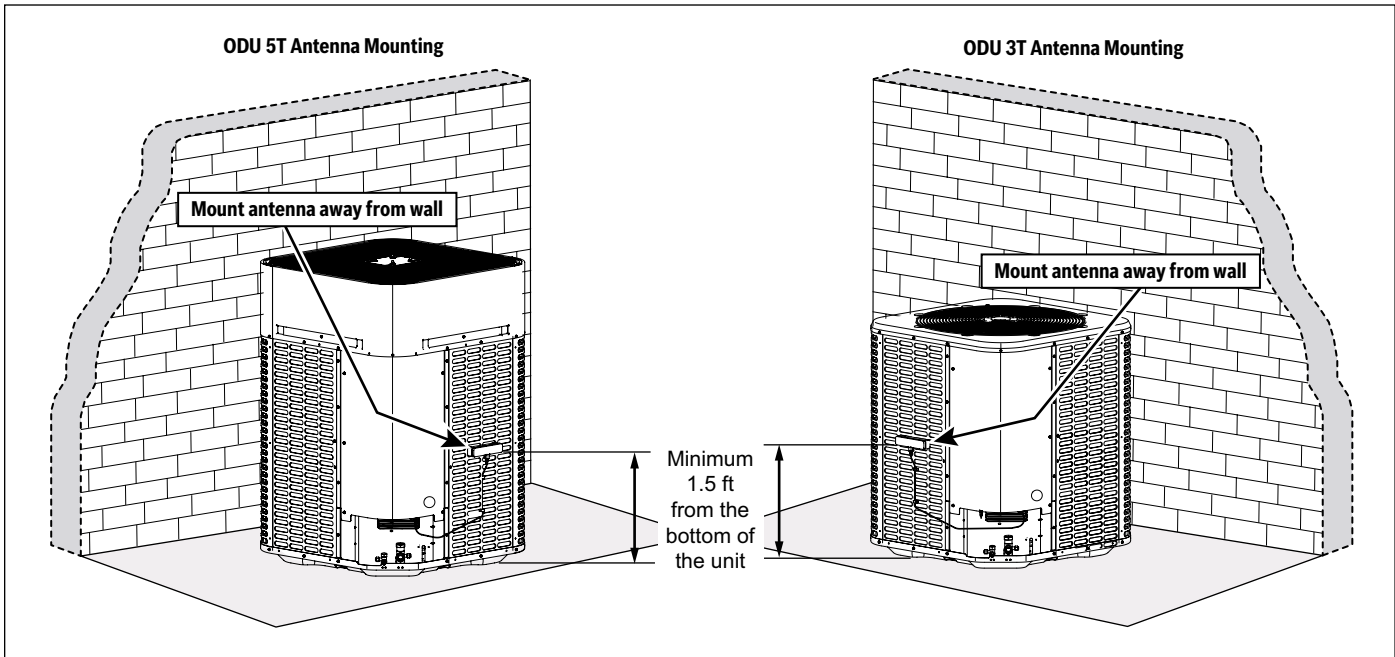
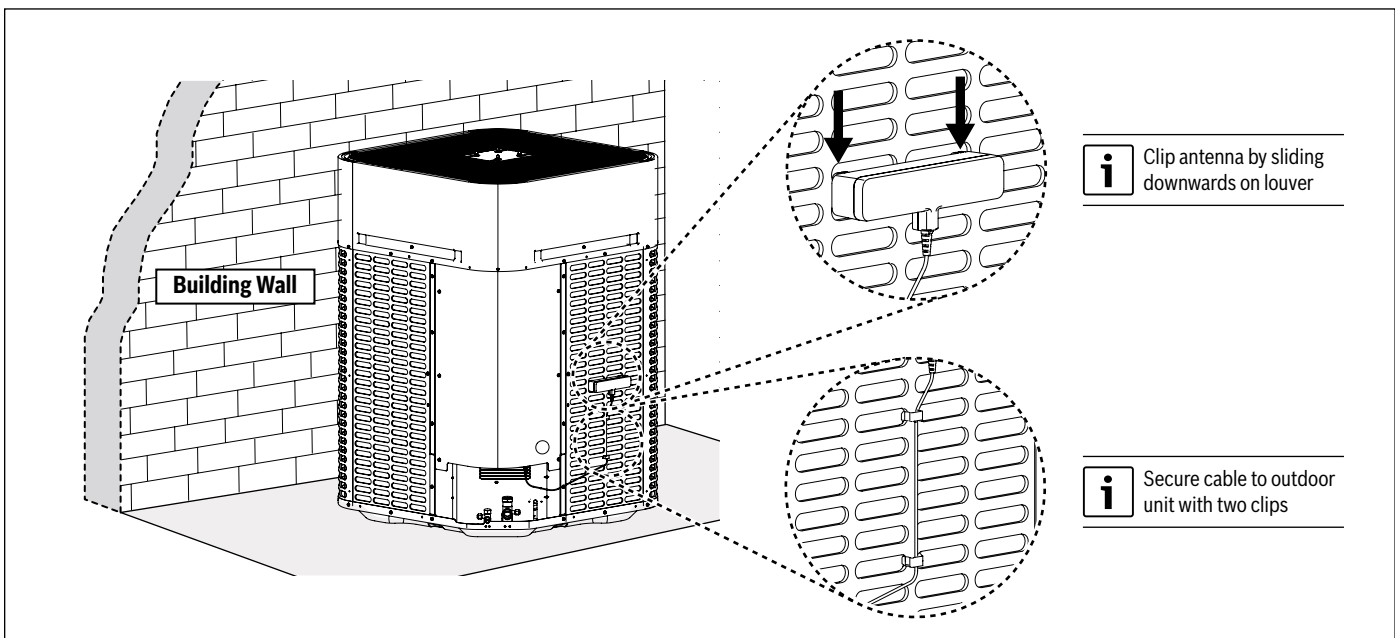

Figure 12
Figure 13
1. Mount antenna on louver on the left or right side of the unit depending on which is furthest from a wall. Ensure the antenna is mounted at least 1.5 ft from the bottom of the unit. Refer to Figure 12. Slide the antenna downwards to mount the antenna and secure the cable using the 2 movable clips on the cable. Refer to Figure 13.